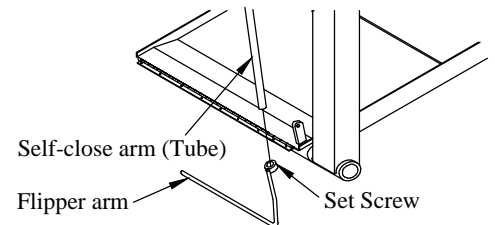

Figure 21: Flipper arm location.
9. **Install** the flipper arm over the self-closing tube (Figure 21).
10. **Tighten** the 1/4" set screw on the flipper arm (Figure 21).